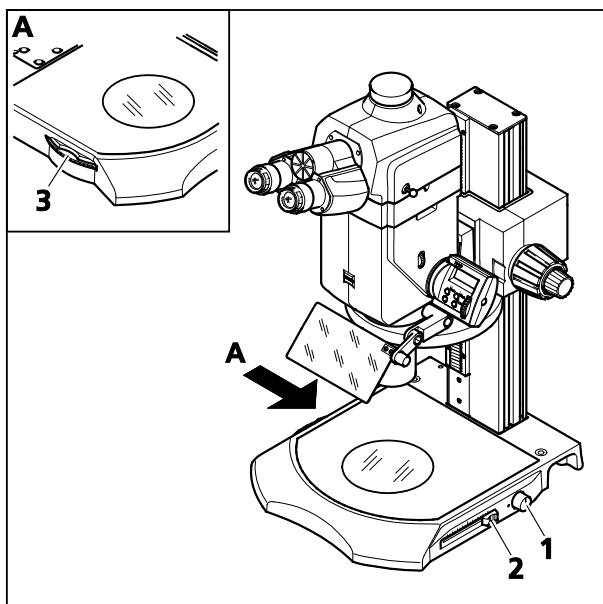

Fig. 47 Adjusting transillumination base 300
- Switch on using the rotary knob (Fig. 47/1) and regulate illumination intensity. The blue power indicator lights up when switched on.
- Select the desired illumination method using the setting wheel (Fig. 47/3).
Different effects can be achieved with the shutter slider (Fig. 47/2) in the individual illumination methods.
The diaphragm slide (Fig. 47/2) should initially be at the rear stop in order to achieve a large homogeneous luminous field.